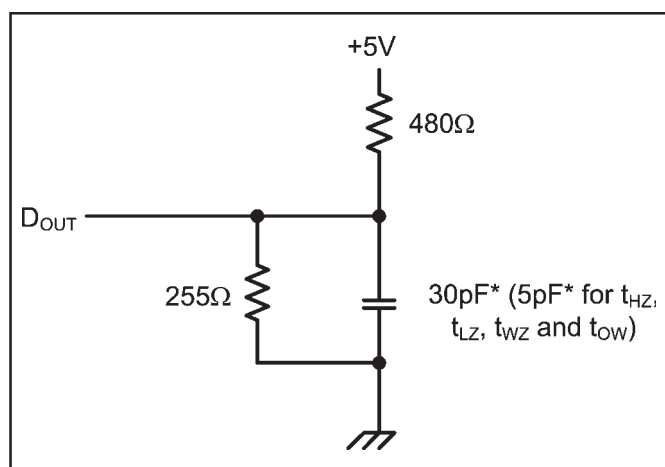

Figure 1. Output Load
- 7. Transition is measured $\pm 200mV$ from steady state voltage prior to change with specified loading in Figure 1. This parameter is sampled and not 100% tested.
- Transition is measured $\pm 200\text{mV}$ from steady state voltage prior to change with specified loading in Figure 1. This parameter is sampled and not 100% tested.
Output Load	See Figures 1 and 2